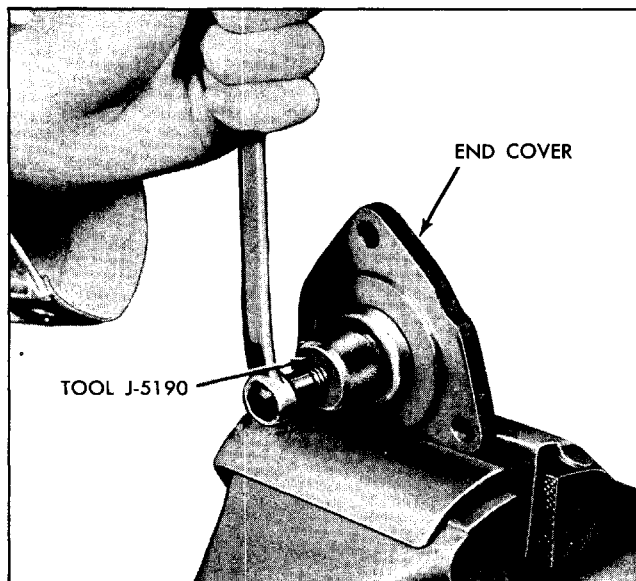

Fig. 9-35 Removing Bearing From End Cover
2. Using puller tool J-5190, remove roller bearing from end cover (Fig. 9-35), if it is to be replaced.